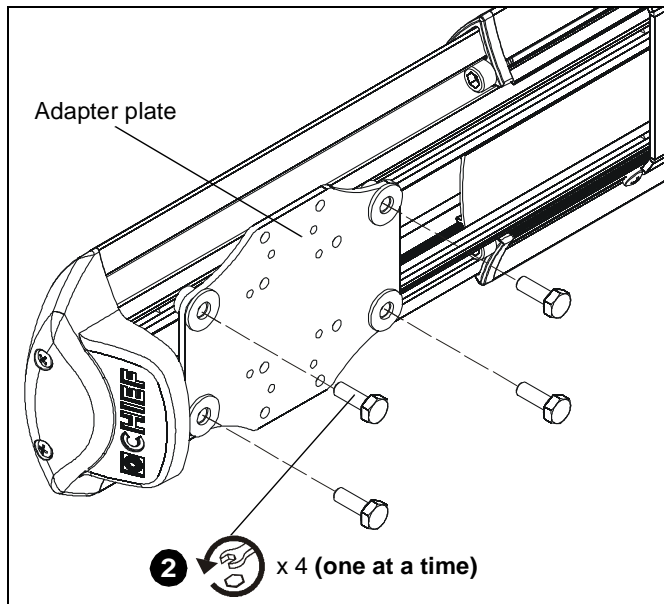

Figure 72
2. Remove one of four bolts from adapter plate. (See Figure 72)